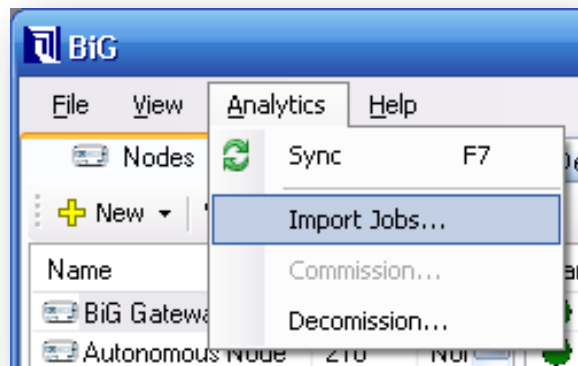

Figure 11-6 - Import jobs using the Analytics menu
1. Select *Analytics* → *Import Jobs...* from the menu of the main window (see FIGURE 11-6)